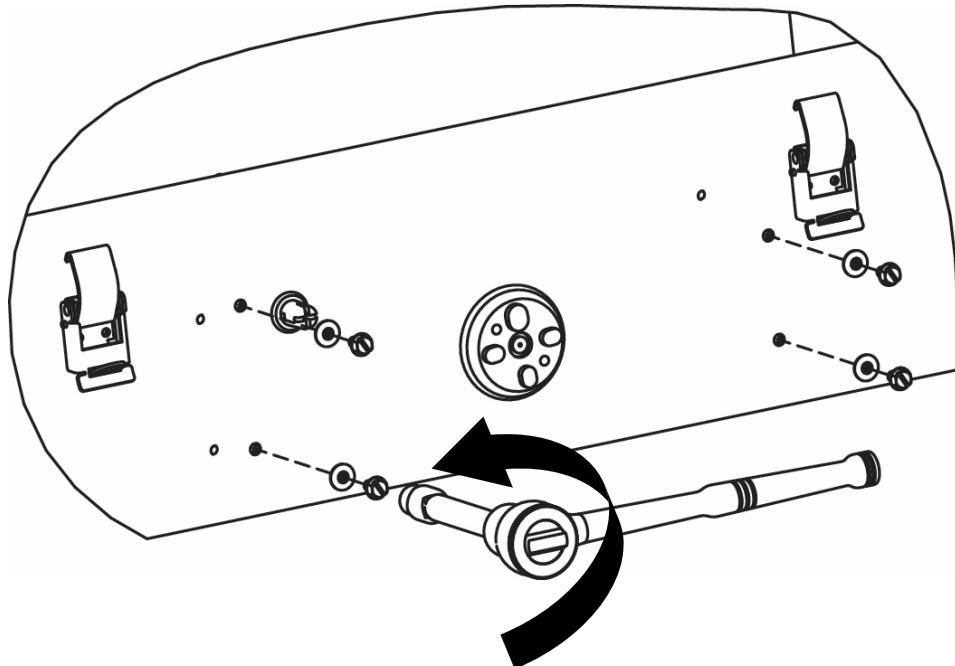

Fig. 8
7. Remove the mechanism mounting screws and sealing washers as shown in Fig. 8.